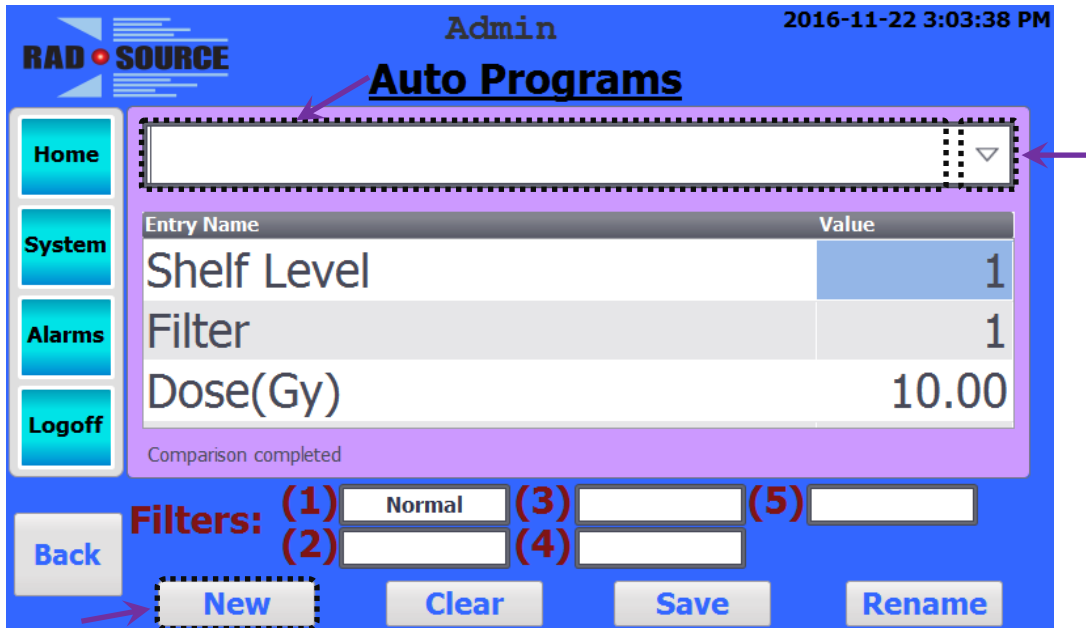

Figure 36: New or Existing Program
- At the bottom of this screen, press *New*, then tap the top box to bring up the on-screen keyboard and enter a program name. Or, to edit an existing program, tap the arrow on the right side of the box and select the program's name. (See Fig. 36 and 23.)